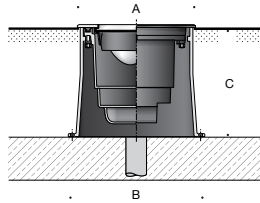

Figure 1: Mounting
1. Position back housing on the stable foundation; anchor using hardware (by others). [Figure 1]
2. The finished surface must be level with or below the upper edge of the recessed housing to guarantee a proper seal of the luminaire faceplate. [Figure 1] [Figure 2]